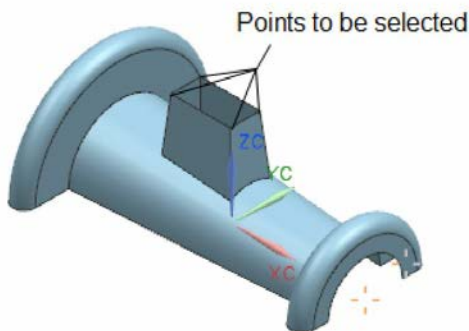
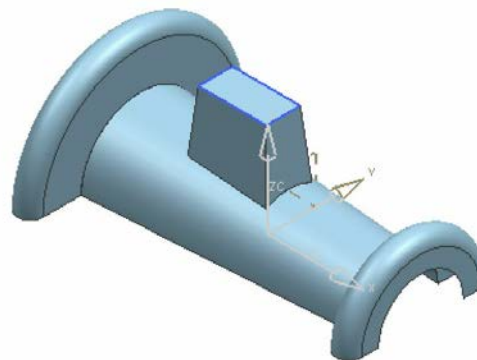

Figure 10-105 Vertices to be selected
Figure 10-106 The resulting surface
- Create the top surface of the extruded feature, refer to Figures 10-105 and 10-106.
2. Select the vertices at the top of the extruded feature, refer to Figure 10-105, and then choose the **OK** button. The resulting surface is shown in Figure 10-106.